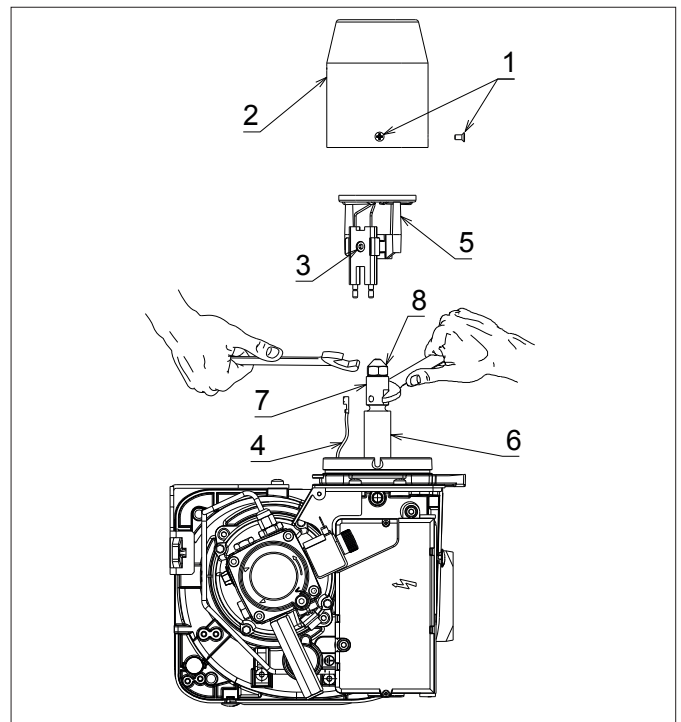
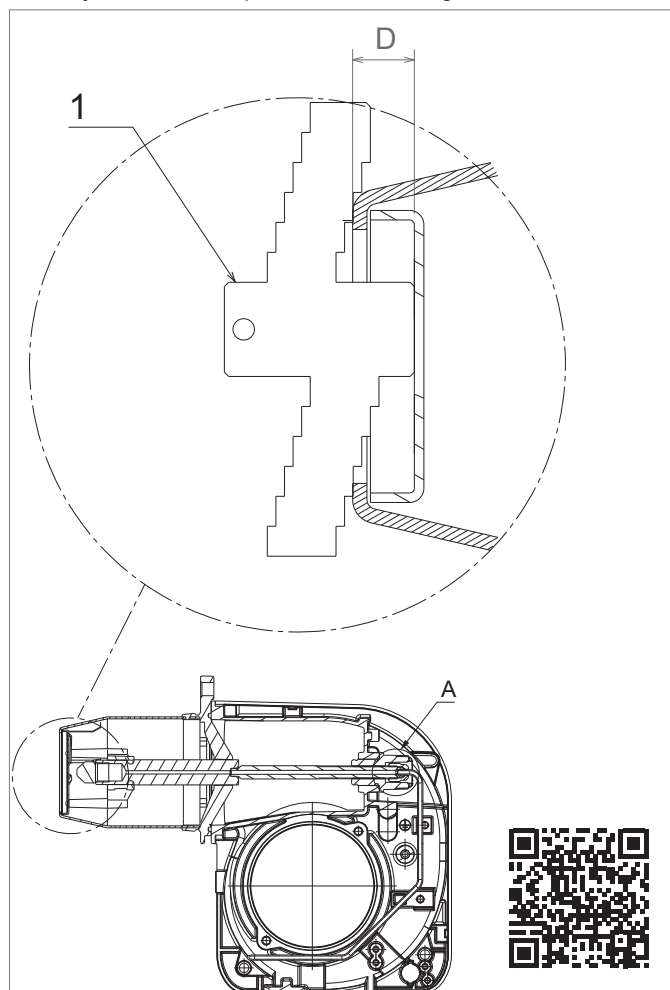

Figure 10-2: Burner head, diffuser and nozzle holder
Figure 10-4: Riello RDB 2.2 BX diffuser position and gauge plate
4. Remove the burner head. Refer to Figure 10-2. Loosen the three fixing screws (1) and remove head (2) from burner.
6. If the nozzle needs to be replaced - remove the diffuser/electrode assembly. Refer to Figure 10-2.
- Using a 4 mm Allen key, loosen the diffuser fixing screw (3) on the electrode assembly.
- Lift diffuser/electrode assembly (5) up and off the nozzle holder.
- Disconnect both ignition leads (4) from the electrodes.
7. Use a 16 mm spanner to remove/re-fit the nozzle (8), whilst holding the nozzle holder (6) using a 19 mm spanner.
8. Re-fit the diffuser/electrode assembly. Refer to Figure 10-2.
- Reconnect ignition leads (4) to electrodes.
- Re-fit the diffuser/electrode assembly (5) onto the nozzle holder lining up the fixing screw with the recess in the nozzle holder.
- Tighten the fixing screw (3) to secure the diffuser/electrode assembly in place on the nozzle holder.
10. Re-fit the burner head. Refer to Figure 10-2.
- Locate the head fixing screws (1) in the countersunk slots in the burner collar.
- Tighten the three screws (1) to secure the head (2) in position on the burner.
11. Adjust the diffuser position. Refer to Figure 10-4.
- Position the gauge on the burner head as shown in Figure 10-4.
- If necessary, adjust distance D using the black adjustment knob located around the oil supply pipe on the front of the burner. Refer to item A (Figure 10-4). Re-check distance D using the gauge plate, as described above.